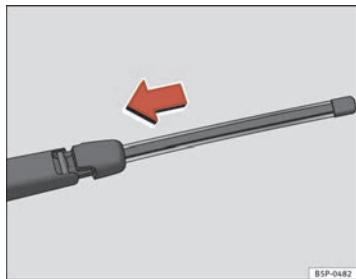

Fig. 170 Fitting the rear window wiper blade
- Place the blade as shown in the ⇒ page 244, fig. 170 and slide the adapter along until it engages.